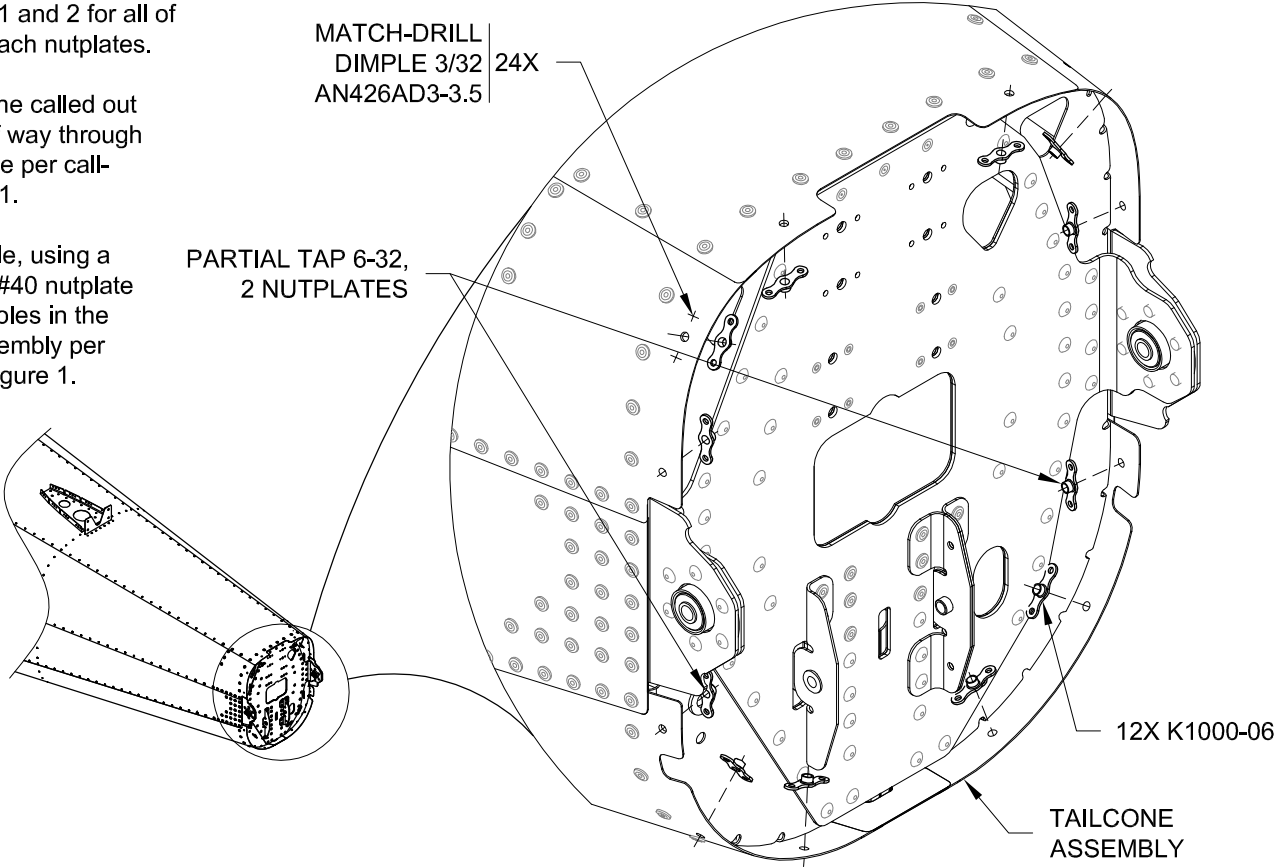

FIGURE 1:
Step 8: Check the clearance between the F-1294 Assembly spar box cutout and the Stabilator Assembly spar box throughout the full travel of the Stabilator Assembly as shown in Figure 1, Detail B-B. Check the clearance between the F-1294 Assembly rudder horn cutout and the rudder horn throughout the full travel of the Rudder Assembly as shown in Figure 1, Detail A. Mark, and trim any areas of interference for at least 1/8 inch of clearance to the F-1294 Assembly.
Step 3: Tap the called out nutplates half way through the screw hole per call-out in Figure 1.
Step 4: Dimple, using a 3/32 die, the #40 nutplate attach rivet holes in the Tailcone Assembly per call-outs in Figure 1.
Step 6: Rivet the nutplates to the tailcone per marks made in Step 2, and call-outs in Figure 1.